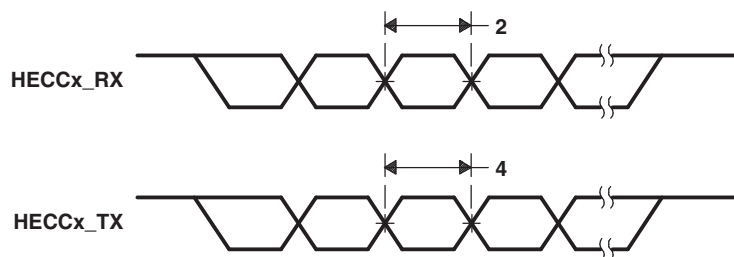

**Figure 6-38. HECC Transmit/Receive Timing**
**Table 6-69. Timing Requirements for HECC Receive(1)** (see Figure 6-38)
(see Figure 6-38)